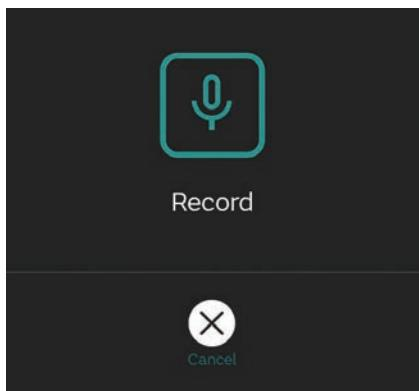

Figure 52. Audio Annotation - Begin recording
3. Tap the **Record** button (Figure 52) to begin the audio annotation.